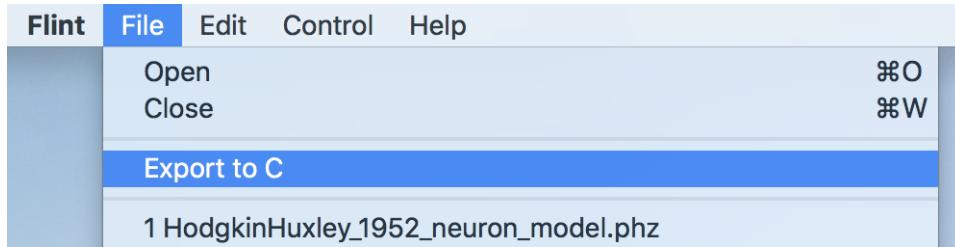

Figure 3.9: The menu “File”→“Export to C”.
2. Select the menu “File”→“Export to C” (see Fig. 3.9)